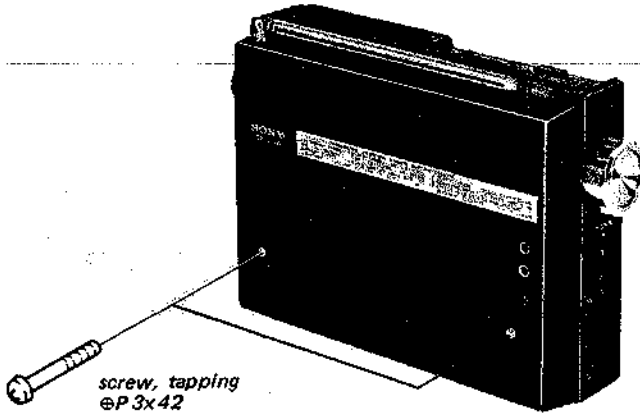

Fig. 1-1.
1. Remove the two screws shown in Fig. 1-1.